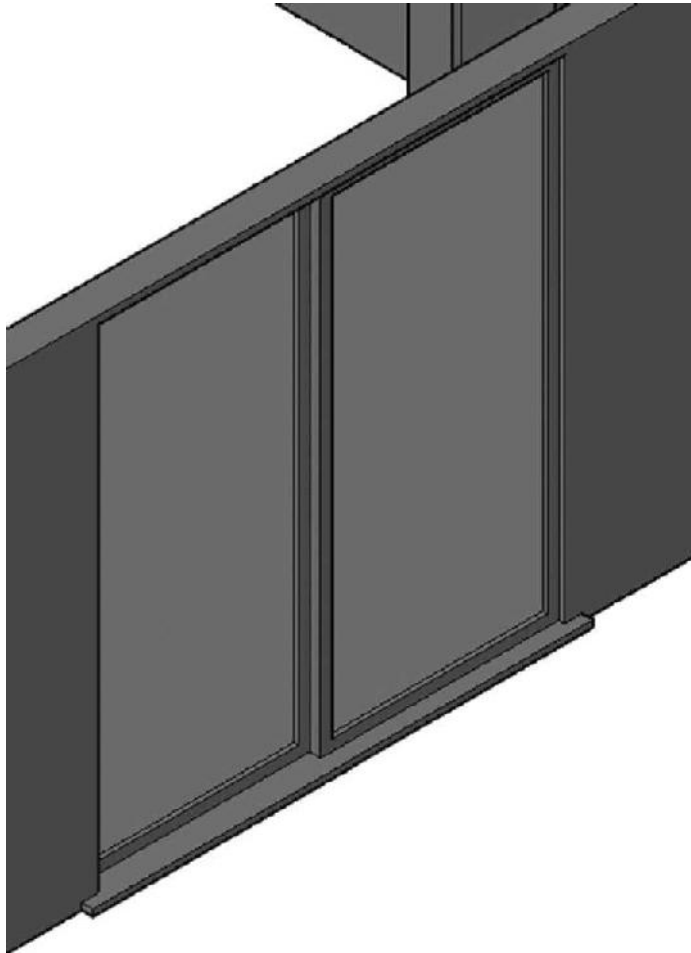

FIGURE 16.50: The completed sliding door with two offset panels
11. Copy the frame until it butts the opening on the left and then move it 2" (51 mm) toward the inside of the cabin so that the two door frames are offset (see Figure 16.50).